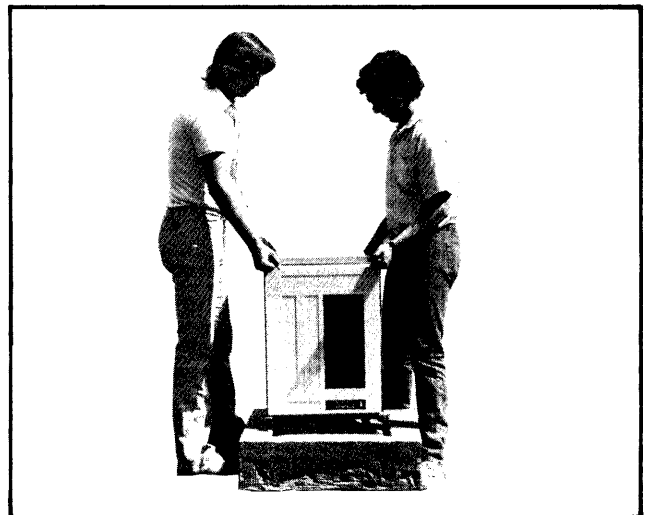

Figure 2-4.
5. Remove foam blocks and lift out. (See Figure 2-4) (SAVE)